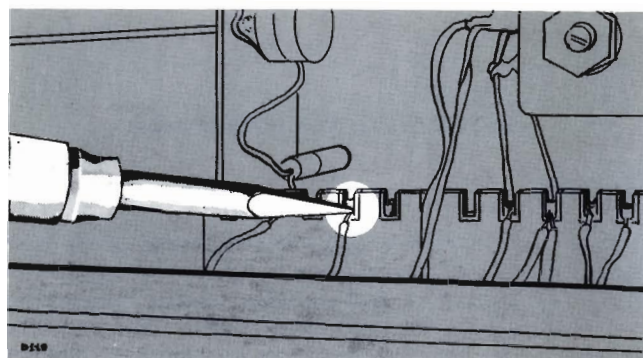

Fig. 5-3. Correct method of applying heat in soldering to a ceramic strip.
4. Apply one corner of the tip to notch where you wish to solder (see Fig. 5-3).